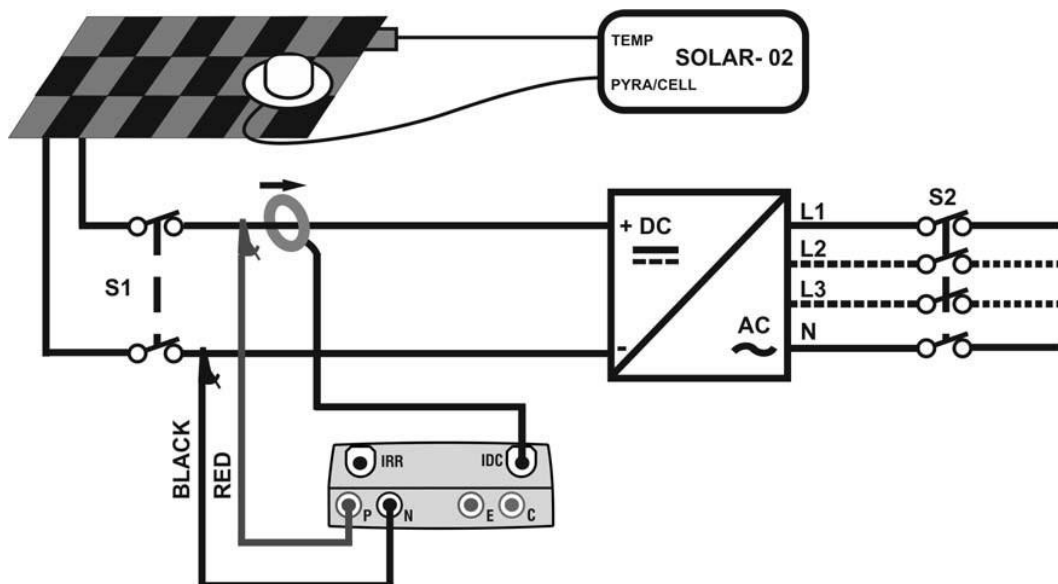

Fig. 4: Connection of instrument for efficiency measurement on a PV installation
7. Connect the inputs **P** and **N** respectively to the positive and negative output of the string, respecting the colours indicated in Fig. 4
9. Connect the DC current clamp to the positive output conductor of the string, **respecting the direction of the arrow** found on the clamp itself as indicated in 10. **Fig. 4: Connection of instrument for efficiency measurement on a PV installation**